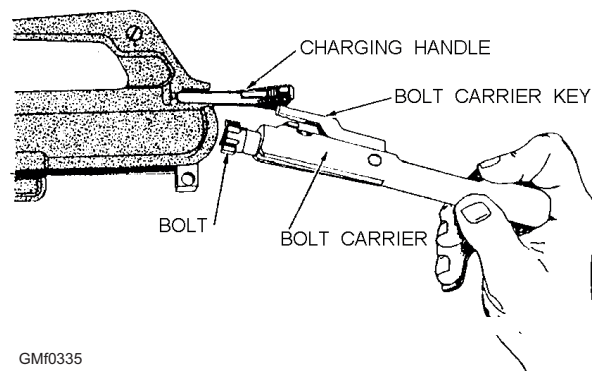

Figure 3-35.—Removing the bolt carrier from the receiver.
4. Pick up the upper receiver group; keep the muzzle to the left. Grasp the charging handle, pressing in on the latch, and pull to the rear to withdraw the bolt carrier from the receiver. Grasp the bolt carrier and pull it from the receiver (fig. 3-35). When the bolt carrier is